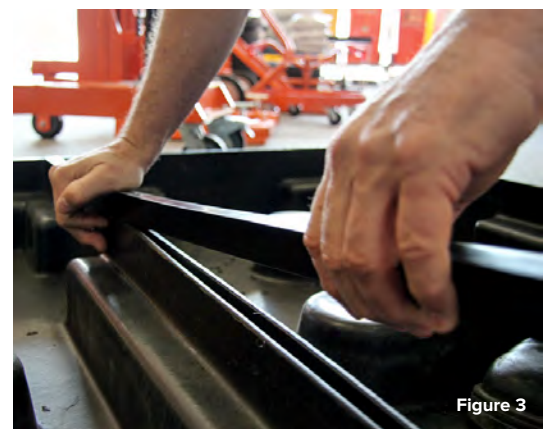

Figure 3
- Position the joining strip over the joined bund walls (Fig 3) and push to fit.